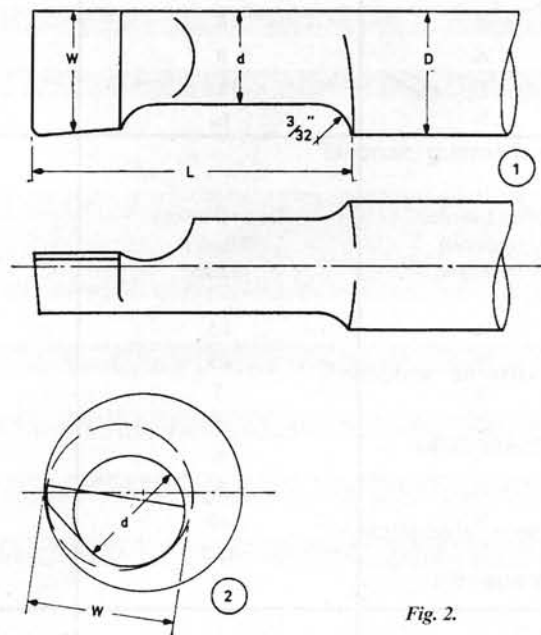

Fig. 2.
The notes on boring tools have been very popular and there have been a few requests for more information regarding the proportions and dimensions of the integral boring tools which are used in the small holder, p. 168 (3, 4 and 5). There is a fair amount of latitude possible in the dimensions of these and it was suggested that a stock of blanks be prepared which would cover all normal work and leave very special cases to be dealt with as they arise. The essential dimensions are indicated in Fig. 2 (1) and the following notes should give all the guidance that is necessary; other details have already been given.
to be used for cutting internal threads by turning the tool upside-down and feeding into the back of the bore it has become obvious that the same procedure could be adopted for boring. Fig. 2 (2) is a diagram showing a boring tool in a hole; all proportions being as outlined above. If the diagram be turned upside-down it will be clear that the space for chips at the bottom of the hole is now increased and there is the added bonus that increased cuts are additive on the dial instead of being subtractive. This should be of help to those people who say that they are no good at mental arithmetic!